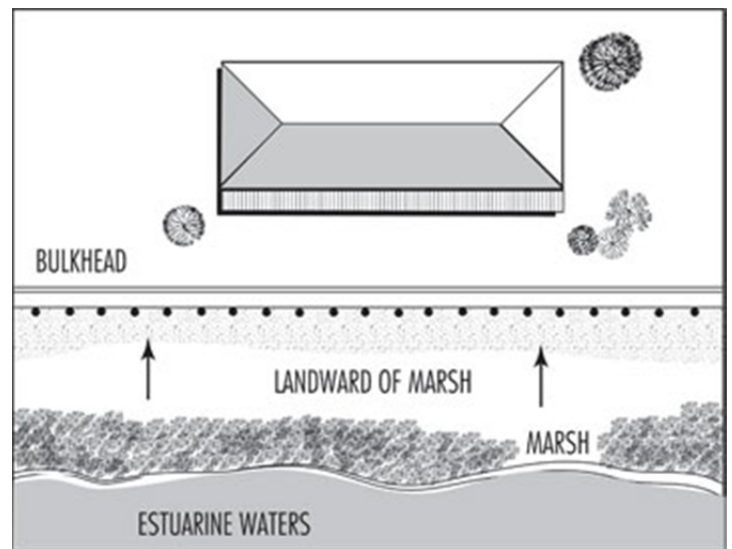

Figure 4.5
- If you are installing a shoreline stabilization measure, you must build the structure landward of marsh areas (see Figure 4.5). In those areas where a shoreline stabilization measure is proposed immediately waterward of the marsh, it may be allowed if it is placed no more than 6 inches above the elevation of the adjacent marsh substrate, and involves no backfilling or altering of the wetland. Marshes are vital to the health and productivity of fish and shellfish, and they depend on regular flooding for nutrients and for carrying away sediments and pollutants. Bulkheads may block this essential exchange and stimulate the gradual filling of the state's coastal wetlands.